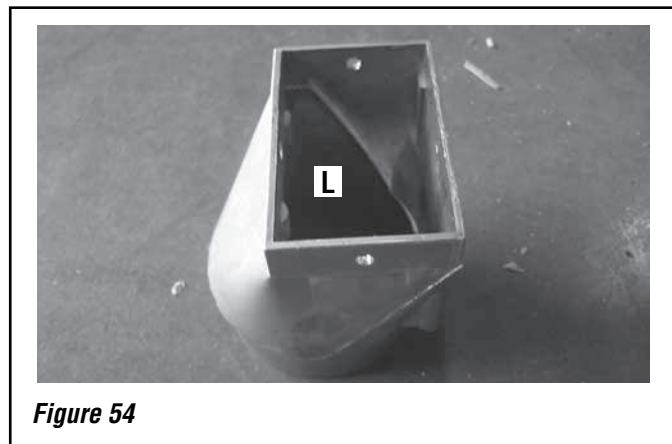

Figure 54
1. For a rear vent termination, remove the flue clean out box on the PI40GL pellet insert by removing the three screws (1 on top and 1 on both the right and left side) that hold it in place. Using these same screws, install the rear vent adaptor (L) in place of the flue clean out box (see **Figure 54**).